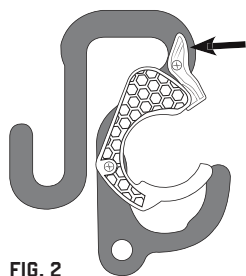

FIG. 2
- a. Open the gate by pushing the top of the locking tab backwards towards the bucket (FIG 2). This will push the bottom of the tab forward and lift the gate open.